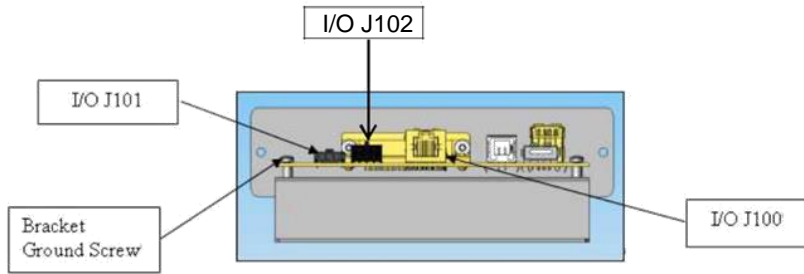

Figure 4: I/O Bracket
9. Connect the *P102* Molex receptacle on the flapper box wire harness to the *J102* connector on the I/O board (“Figure 4: I/O Bracket”).